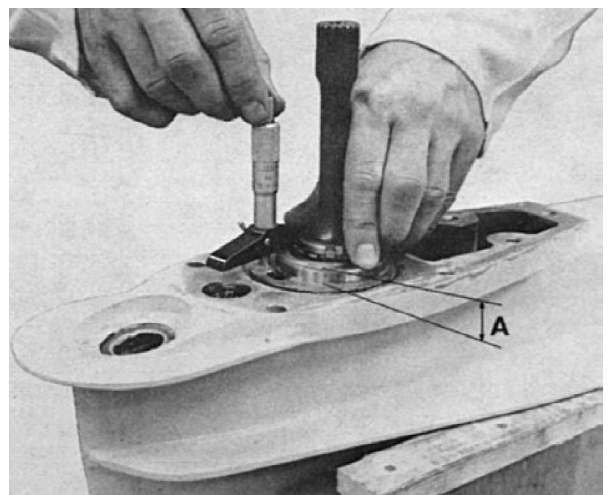
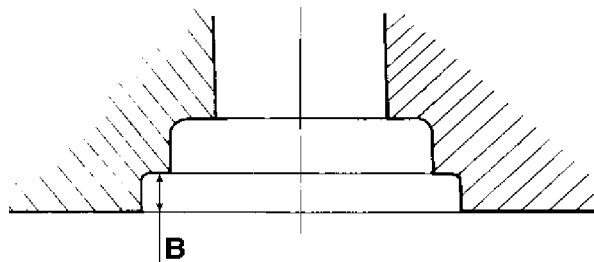

Fig. 41.
Fig. 42.
1. Place the outer ring of the axial bearing on the bearing (13, Fig. 59) and hold it firmly in position. With a depth micrometer measure "A", Figs. 41 and 43 and "B", Fig. 42.